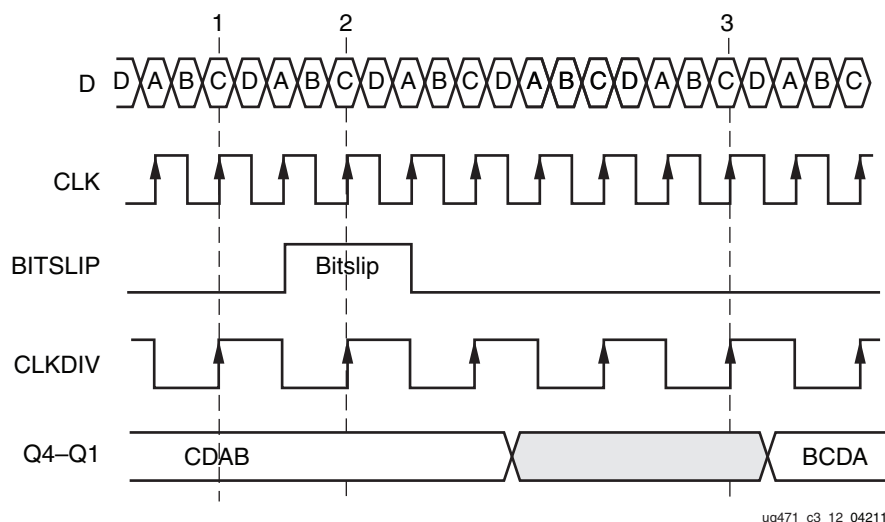

Figure 3-12: DDR Bitslip Functional Diagram
When the ISERDESE2 interface type is MEMORY, the latency through the OCLK stage is one CLKDIV cycle. However, the total latency through the ISERDESE2 depends on the phase relationship between the CLK and the OCLK clock inputs. When the ISERDESE2 interface type is NETWORKING, the latency is two CLKDIV cycles. See Figure 3-12, page 160 for a visualization of latency in networking mode. The extra CLKDIV cycle of latency in networking mode (compared to memory mode) is due to the Bitflip submodule.
This section discusses the timing models associated with the Bitslip controller in a 1:4 DDR configuration. Data (D) is a repeating, 4-bit training pattern ABCD. ABCD could appear at the parallel outputs Q1–Q4 of the ISERDESE2 in four possible ways: ABCD, BCDA, CDAB, and DABC. Only one of these four alignments of the parallel word makes sense to the user's downstream logic that reads the data from the Q1–Q4 outputs of the ISERDESE2. In this case, ABCD is assumed to be the word alignment that makes sense. Asserting Bitslip allows the user to see all possible configurations of the input data and then choose the required alignment (ABCD). Figure 3-12 shows the timing of a Bitslip operation and the corresponding re-alignments of the ISERDESE2 parallel outputs Q1–Q4.